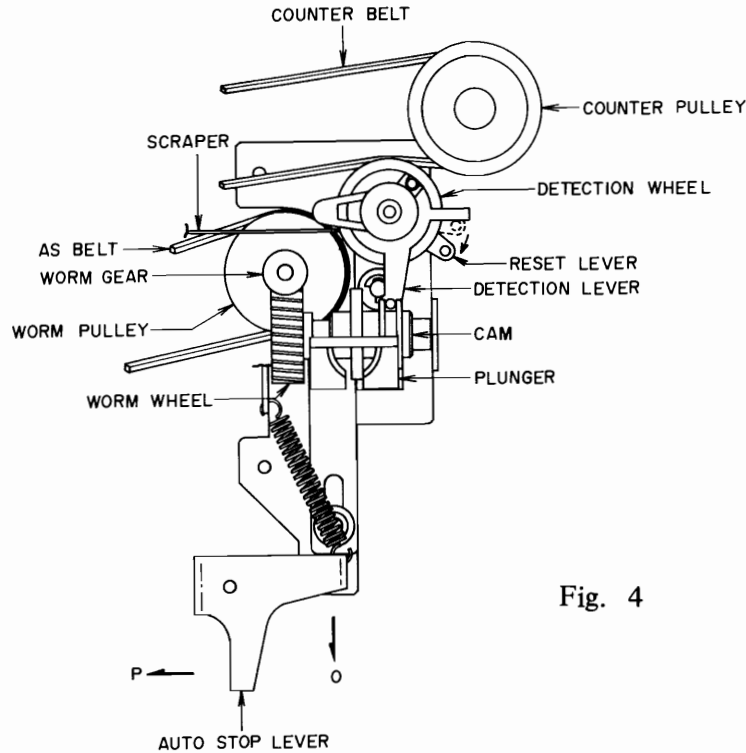

Fig. 4
2. At the same time, the lever functioning in combination with the depressed key allows the reset lever to move downward as illustrated in Fig. 4.
3. When the motor starts rotating, the worm pulley is driven by the AS belt as shown in Fig. 4, thereby rotating the worm gear to turn the cam. On the other hand, the counter belt permits the detection wheel to rotate.
- 6) Shifted in a downward direction, the plunger removes the auto stop lever in the direction of P as indicated in Fig. 4 to release the Play mode and to thus set the tape deck to the Stop mode.
- 5) Shifted in a downward direction, the plunger removes the auto stop lever in the direction of P as indicated in Fig. 4 to release the Rewind mode and to thus set the tape deck to the Stop mode.